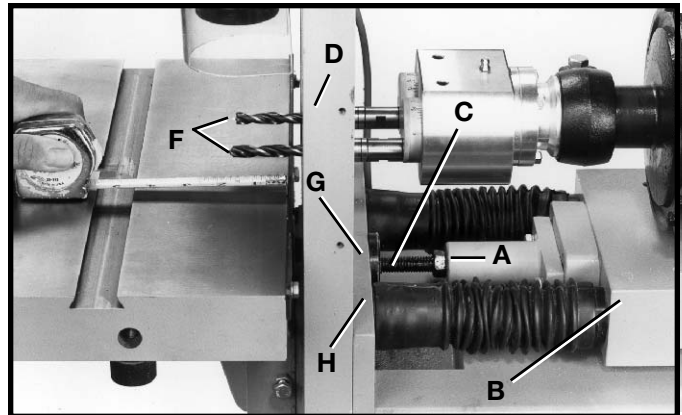

Fig. 20
4. Rotate threaded rod (C) Fig. 20, as necessary to obtain desired drill depth setting. **NOTE:** Drilling depth setting is obtained by measuring from rear fence (D) Fig. 20, of table to tip of drill bit (F) as shown. Manually push the boring head carriage (B) forward or backward until the desired depth setting is obtained.
5. Rotate threaded rod (C) Fig. 20, until the depth stop (G) is firmly against the back wall (H).
6. Tighten locknut (A) Fig. 20, after setting drilling depth.